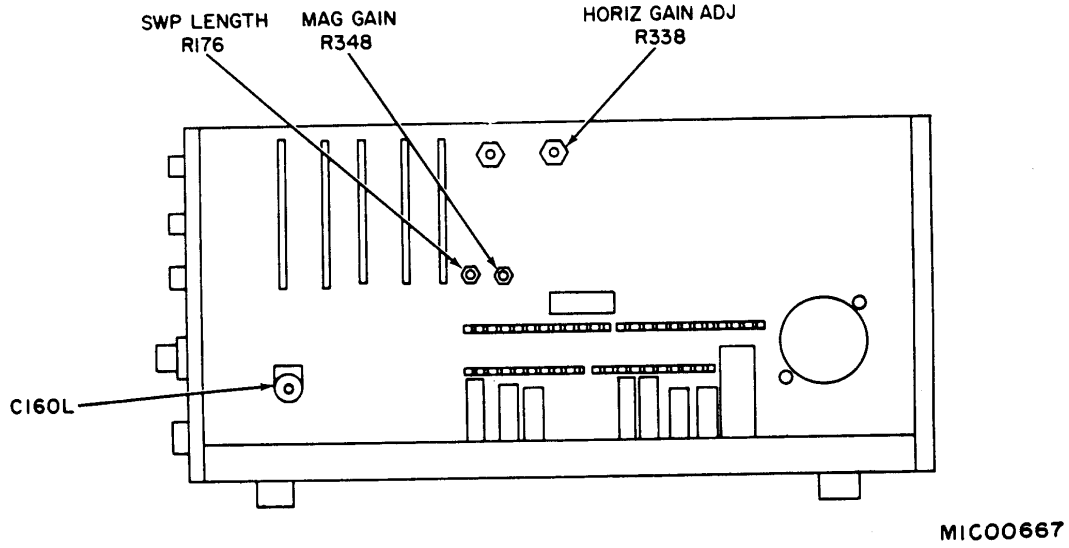
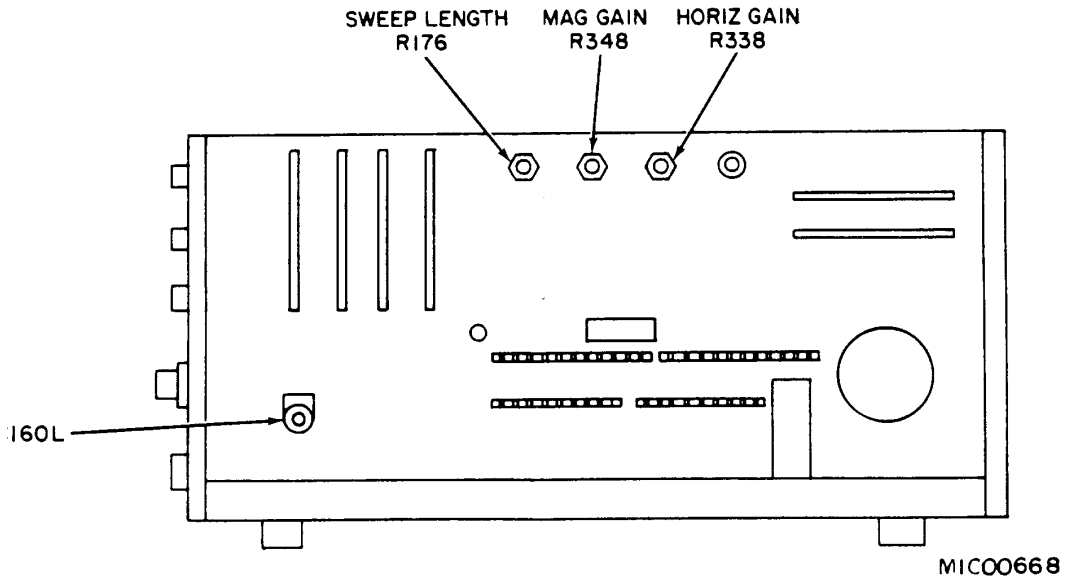

Figure 3. Oscilloscope – right interior view (Type 321).
Figure 4. Oscilloscope – right interior view (Type 321A)
¹Pull out **5X MAG** switch and, if necessary, adjust MAG GAIN R348 (fig. 3 or 4).
²Adjust C160L (fig. 3 or 4).
(1) Adjust HORIZ GAIN ADJ R338 (fig. 3) (HORIZ GAIN R338, fig. 4) for two markers per division (R).
(2) Adjust SWP LENGTH R176 (fig. 3) (SWEEP LENGTH R176, fig. 4) for sweep to end at 22d marker (R).